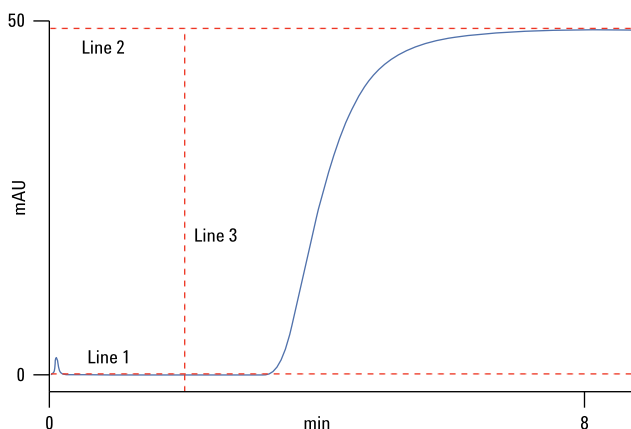

Figure 19. Calculating dwell (delay) volumes, step two
3. Vertical line at 2.0 minutes. Your image should look like Figure 19.